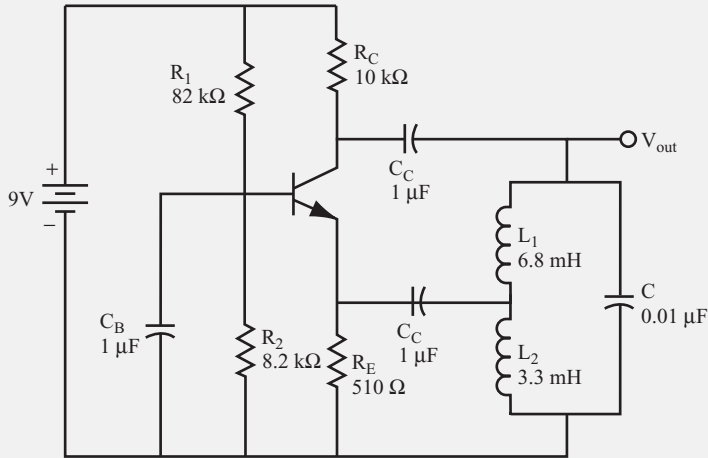

**FIGURE 9.29**
- ☐ One PN2222 transistor. Figure 9.29 shows the pinout diagram for PN2222 transistors.